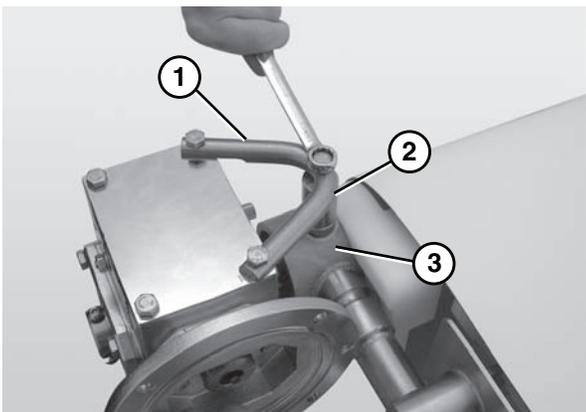

Figure 5
3. Attach the upper gearhead mounting bar (Figure 5, item 1) and the horizontal drive spacer (Figure 5, item 2) to the motor mounting bracket (Figure 5, item 3).